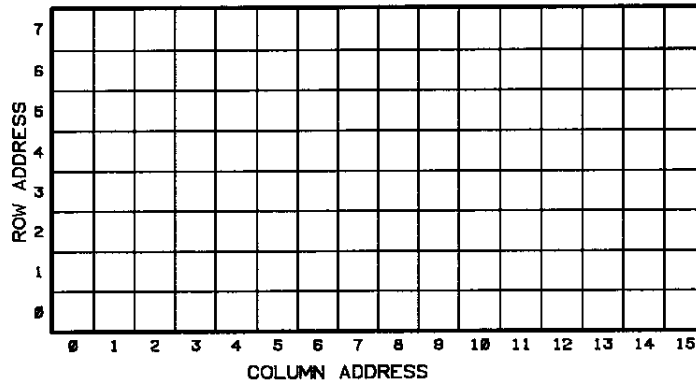
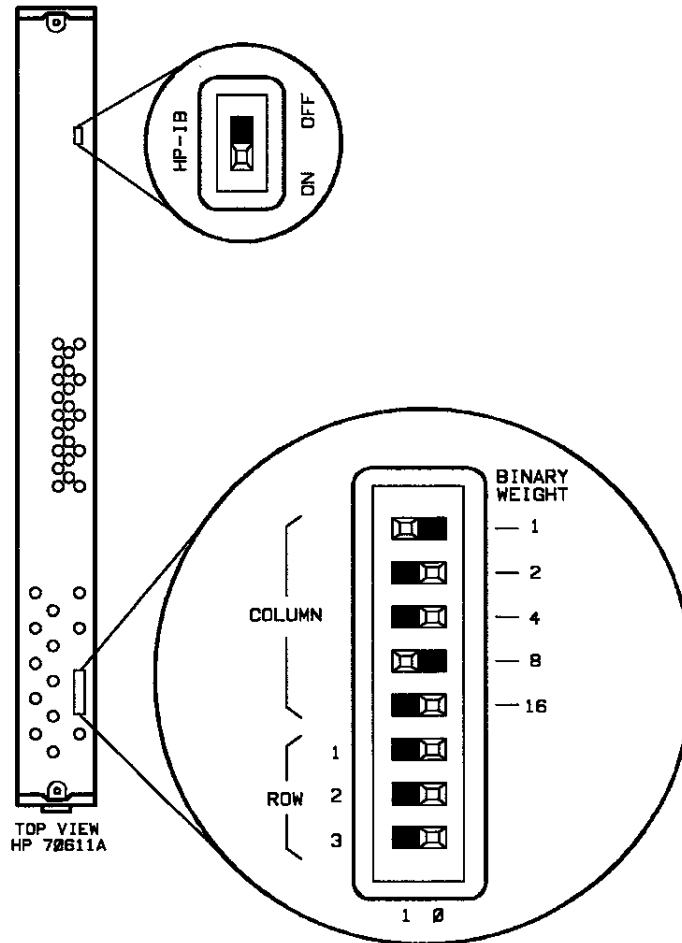

Figure 2-1. Address Matrix
Figure 2-2. HP-IB / MSIB ON/OFF and Address Switch (Default 9 shown)
4. When installing the switch driver, check the module HPIB/HP-MSIB address switches for the correct address. The default address is set to 9. See Figure 2-2.
The address matrix (see Figure 2-1) is a graphic representation of the addresses on the HP-MSIB and the relationships among elements. The placement of an element on the address matrix is one of the factors that determines whether the element will have HP-IB access and can respond to display queries. (Illustrations of the physical switches used to set these addresses are given in Figure 2-2.)
To allow the elements to communicate and function properly, each element must have a binary eight-bit HP-MSIB address that is appropriately positioned on the address matrix. Every element in a system must have a unique address. The three most significant bits (MSB) of the HP-MSIB address determine the row address; the five least significant bits (LSB) determine the column address (see Figure 2-1). The decimal equivalents of the binary row and column addresses are used throughout this documentation. For example:
Note If an element that does not have these capabilities is addressed at row address 0, the system will cease to communicate. Although there are 32 possible addresses available on the HP-MSIB bus at row 0, Limiting your HP-IB bus to 15 instruments, including the display, is recommended. Ensure the HP-IB Enable switch is ON for a maximum of 15 instruments. See Figure 2-1
The HP 70611A, 70612A,C and 70613A,C HP-IB binary weighted address switches are located on the top of the module. The default value of 9 is shown. The address switches are shown in Figure 2-2.